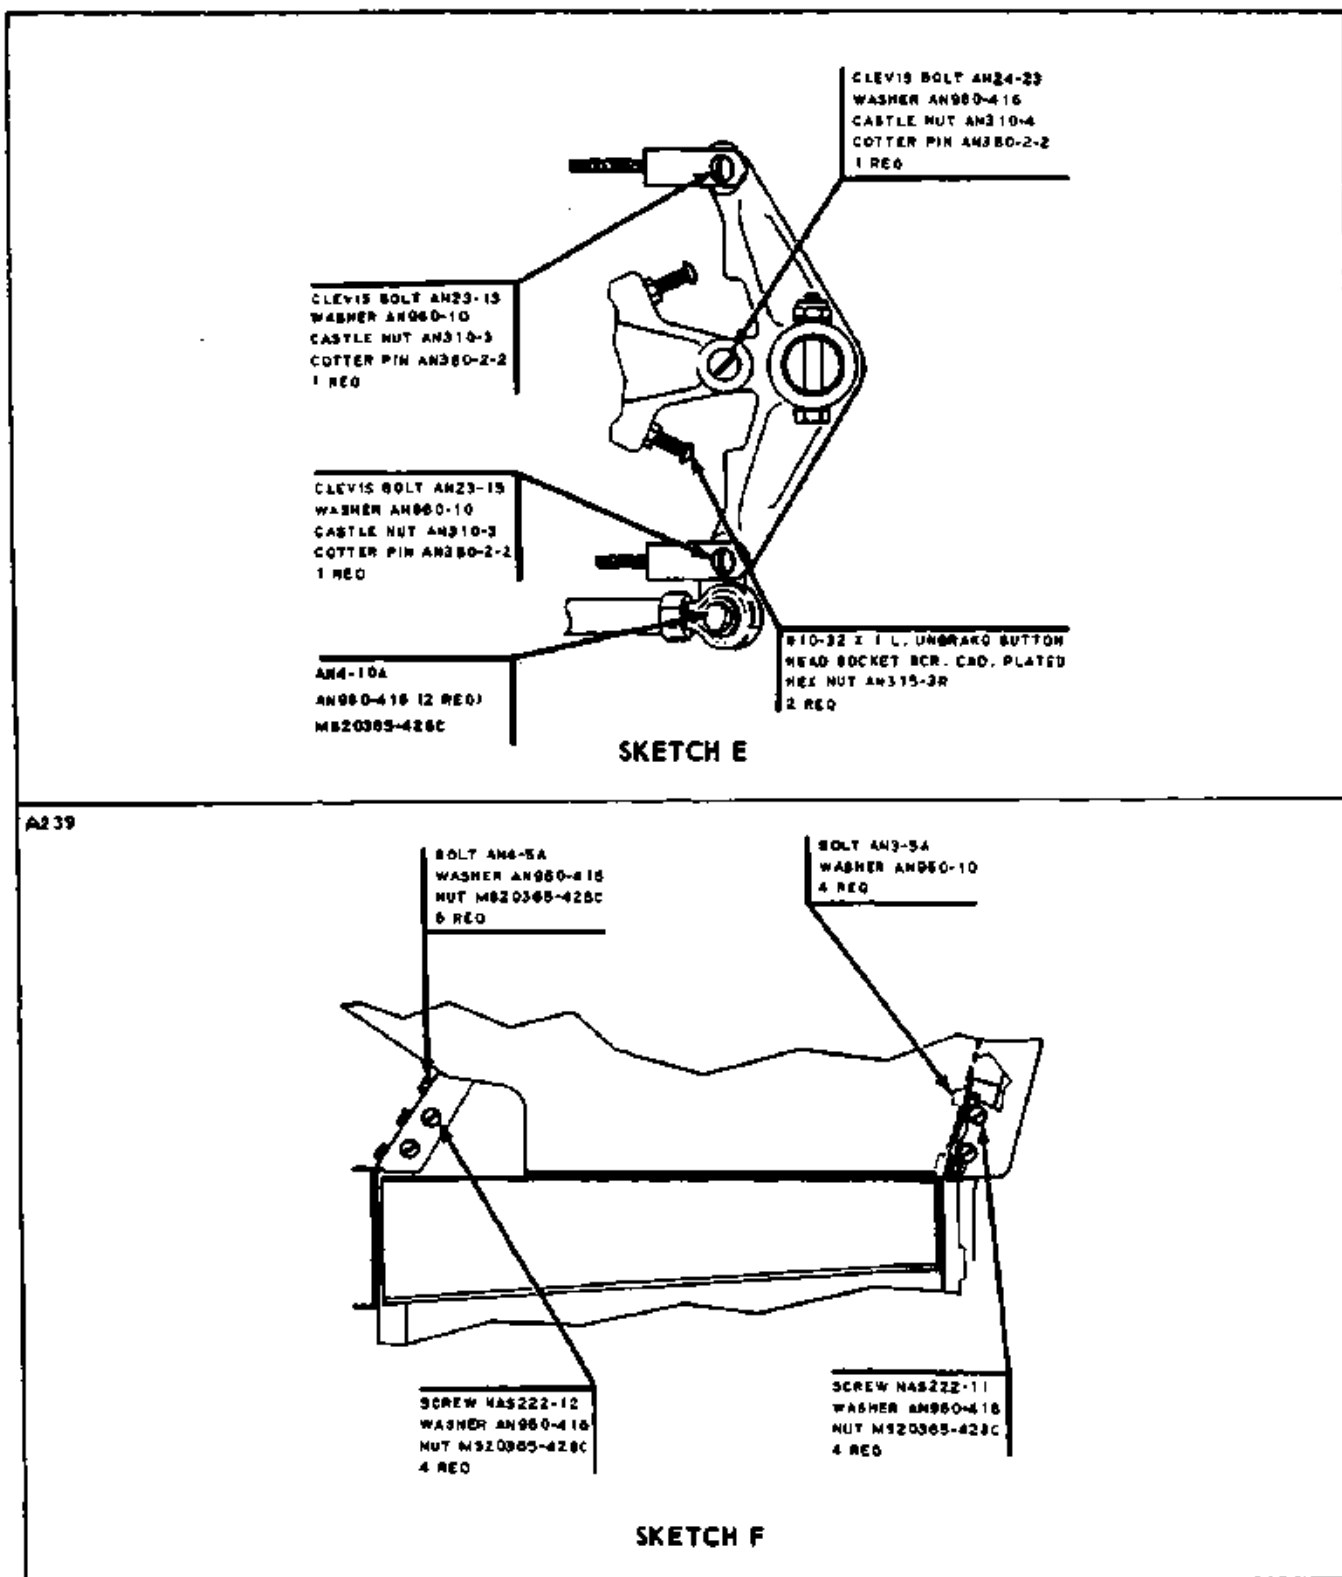

Figure 4-4. Empennage Installation (cont.)
#### 4-21. REMOVAL OF STABILATOR. (Refer to Figure 4-4.)
#### 4-22. INSTALLATION OF STABILATOR. (Refer to Figure 4-4.)
#### 4-24. REMOVAL OF STABILATOR TRIM TAB. (Refer to Figure 4-4.)
#### 4-27. REMOVAL OF RUDDER. (Refer to Figure 4-4.)
#### 4-28. INSTALLATION OF RUDDER. (Refer to Figure 4-4.)
**4-30. REMOVAL OF FIN. (Refer to Figure 4-4.)**
**4-31. INSTALLATION OF FIN. (Refer to Figure 4-4.)**